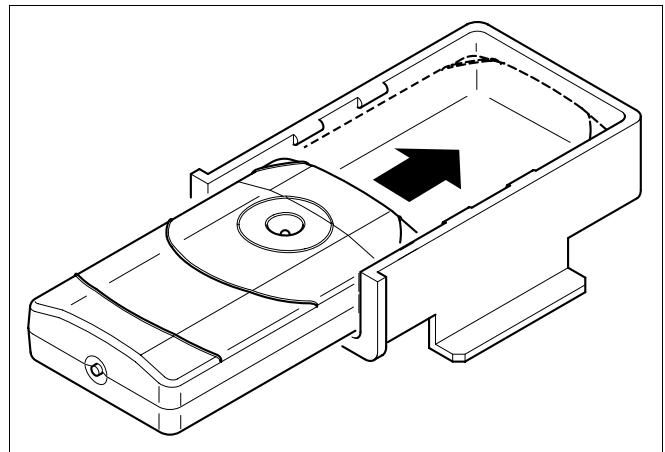

fig. 28 Place receiver into bracket
- Slide the receiver into the bracket (supplied with the boiler) so that it is secured (fig. 28).